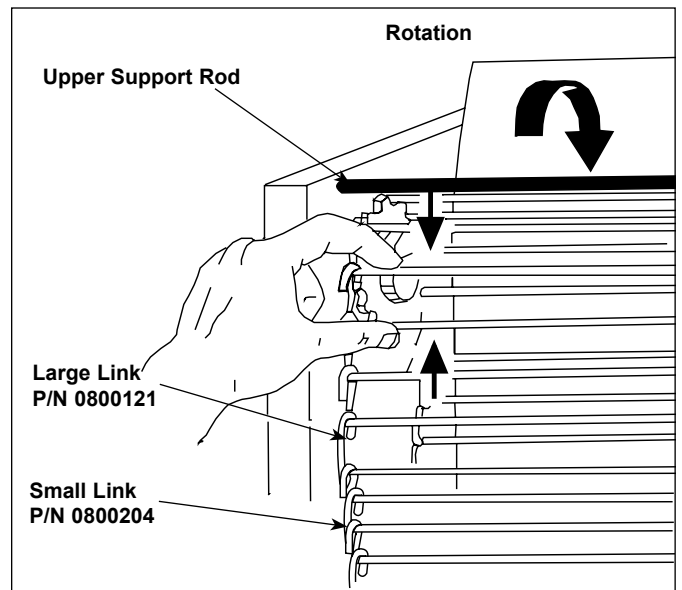

Figure 14. Removing Conveyor Chain Link
6. Disconnect the conveyor belt/chain by squeezing any two links together and unhooking both ends of one link (Figure 14).